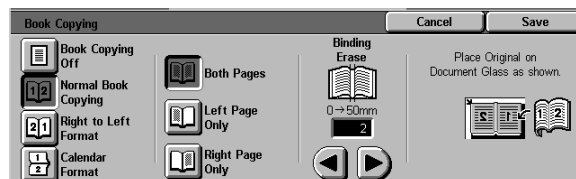

Figure 11: Book Copying screen with Normal Book Copying selected
- 2 Touch the **Normal Book Copying** icon, as in Figure 11.